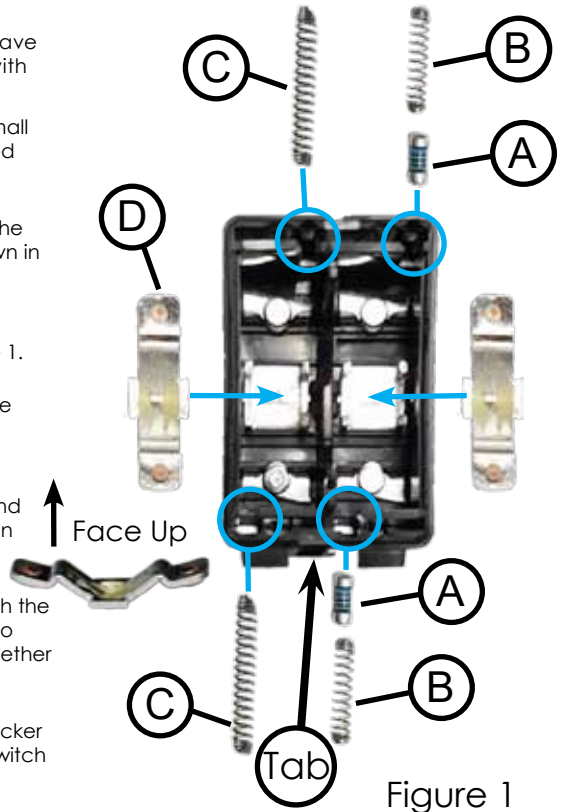

Figure 1
1. Insert the blue diodes (A) first and small spring (B) second into the designated hole on each side shown in Figure 1.
2. Insert the two large springs (C) into the designated holes on each side shown in Figure 1.
3. Set the clips (D) Face up into the designated location shown in Figure 1.